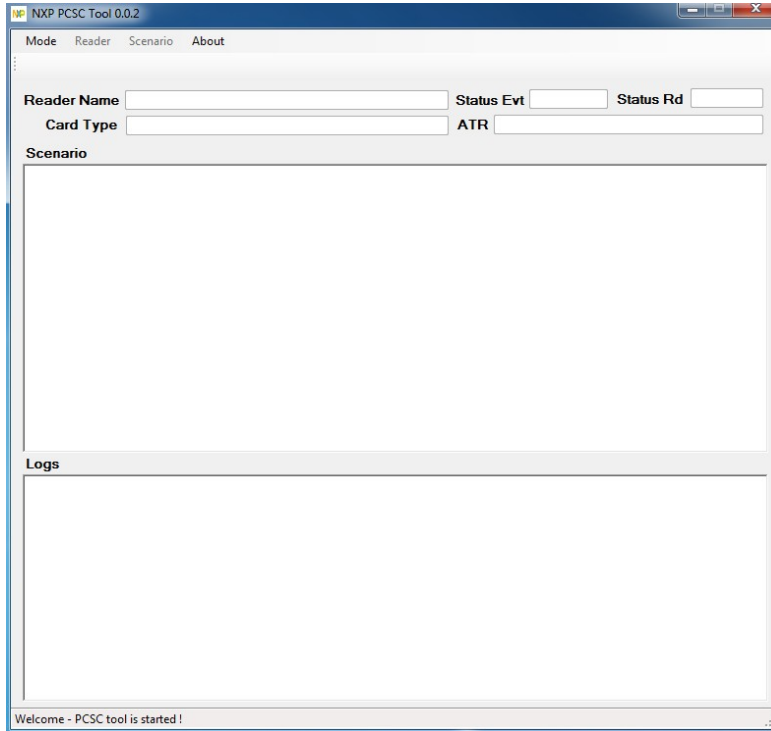

Figure 3-5: NXP PCSC Tool Screen
Step 4: The NXP PCSC Tool window appears (Figure 3-5).